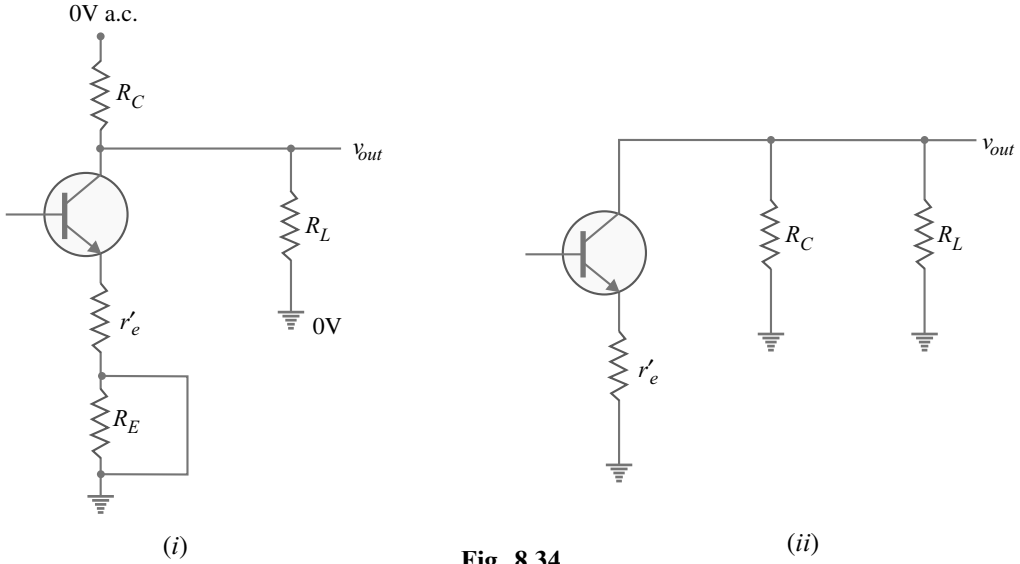

Fig. 8.34
**Voltage gain for loaded amplifier.** Fig. 8.34 (i) shows a part of a.c. equivalent circuit of the  $CE$  amplifier. Note that load  $R_L$  is connected to the circuit. Remember that for a.c. analysis,  $V_{CC} = 0V$  i.e. at ground. Since both  $R_C$  and  $R_L$  are connected to the collector on one side and ground on the other, the two resistors are in \*parallel as shown in Fig. 8.34 (ii).